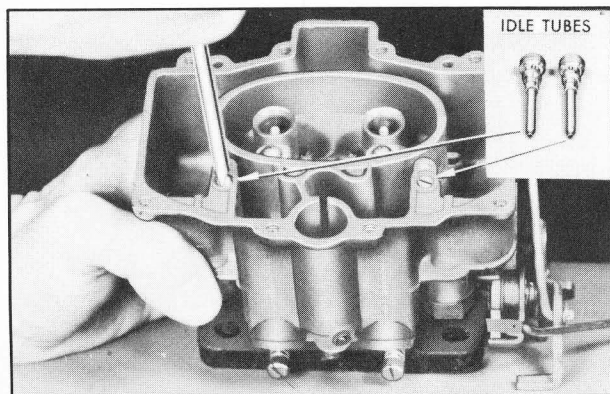

Figure 3-80—Removing Idle Tubes
11. Remove both idle tubes from main body. See figure 3-80. Handle each tube carefully to avoid damaging the small end which contains the metering orifice.
10. Install idle tubes in main body. See figure 3-80.